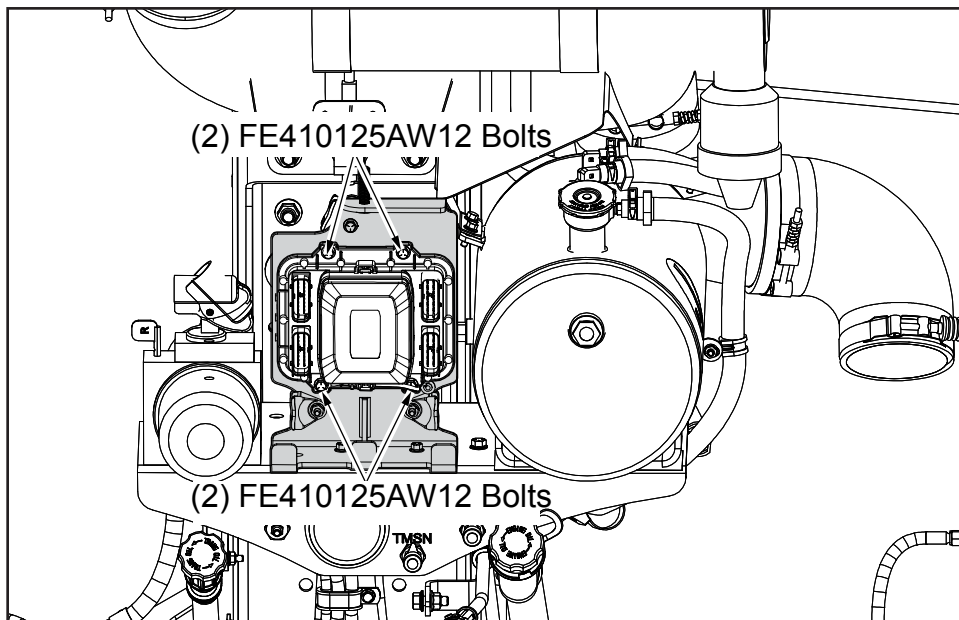

Figure 7
8. Using four FE410125AW12 Bolts, reinstall the FB3 Fuse Box (see *Figure 7*).